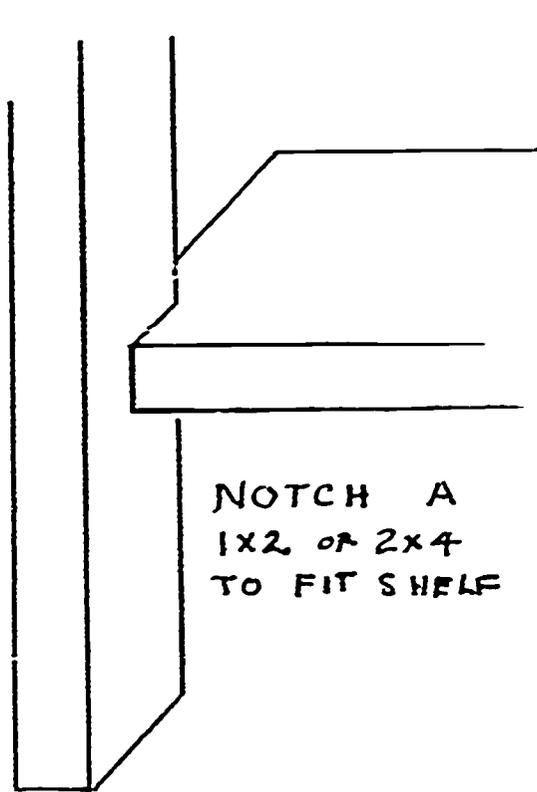

FIG. 233
- a. Cut to length and notch out all four supports at the proper intervals by using a crosscut saw and cutting  $\frac{1}{3}$  the thickness of the support. See figure 233.
- c. Fasten each shelf in the four notches provided, by nail or wood screw. Counter sink if desired. See figure 233.